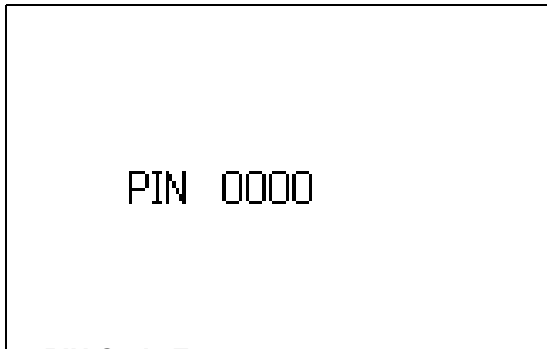

FIG. 41: PIN Code Entry screen
The PIN Code Setup screen allows you to enable a PIN Code (see FIG. 41) that prevents access to the Configuration screen (see FIG. 19) without the correct PIN Code.
4. If you selected Enabled, a pin box pops up. Use the arrow keys to highlight and select the desired value for the each digit in the PIN field. See FIG. 41.